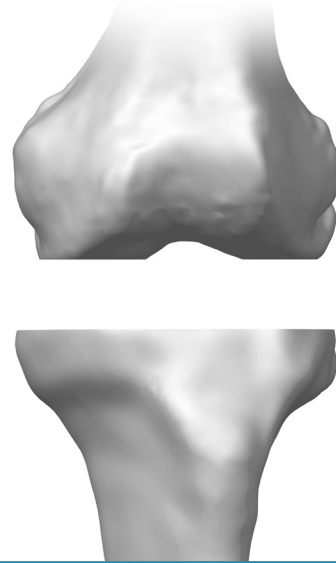

Fig. 1
1. Perform Distal Femoral and Proximal Tibial Resection (Fig. 1)